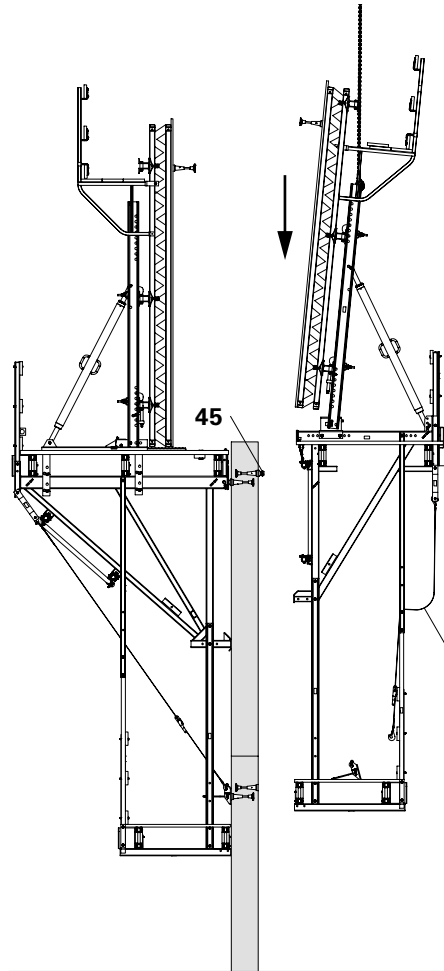

Fig. B1.28
9. Lower the platform unit from the structure and attach it to the Scaffolding Mounting Ring (45) for the next climbing cycle. (See Section B4)
10. Close the planking on the finishing platform. (Fig. B1.28)
11. Mount missing Bolts ISO 4014 M16 x 130-8.8 (48) and Nuts ISO 7042 M16-8 (49). Tighten bolts.